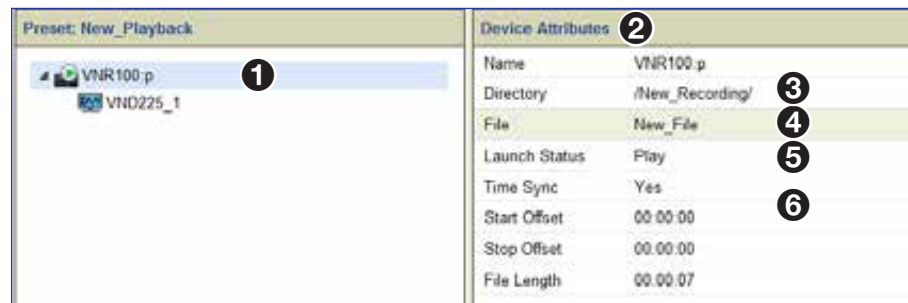

Figure 109. Preset for Playing a Channel
2. In the **Preset** panel, select the player (see figure 109, ①).